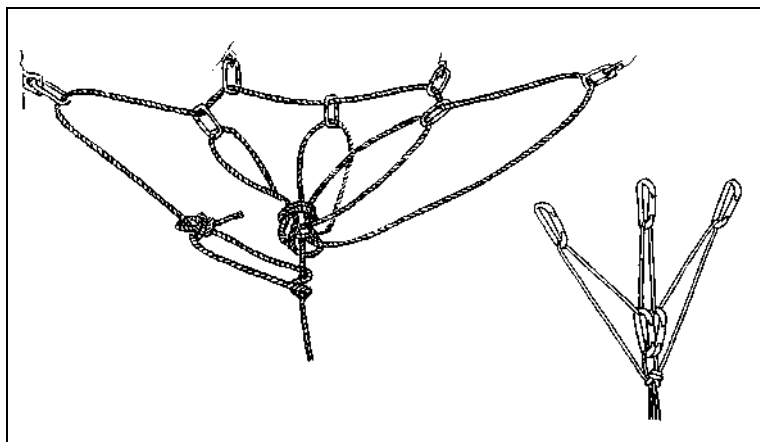

Figure 2-2. Self-equalizing anchor system.
(1) Double the rope and tie a three-loop bowline around the primary anchor to include the primary anchor inside two loops and enough rope in the third loop to run to the secondary anchor (another three-loop bowline secured with an overhand knot).
(2) Double the rope and tie it around a secure anchor point with a round turn anchor bowline secured with an overhand knot (or any appropriate anchor knot).
(3) Double the rope and establish a self-equalizing anchor system (Figure 2-2) with a bowline-on-a-bight or figure-eight-on-a-bight knot. Tie off on the long standing and with a round turn anchor bowline.